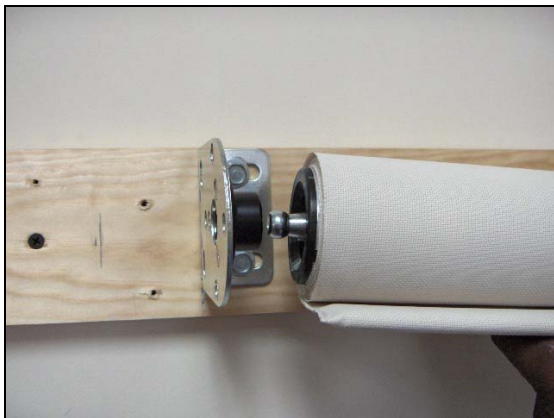

Figure 17 Motor Idler Going into Bracket
- Place the idler pin on the shade into the idler end bracket. See Figure 17.